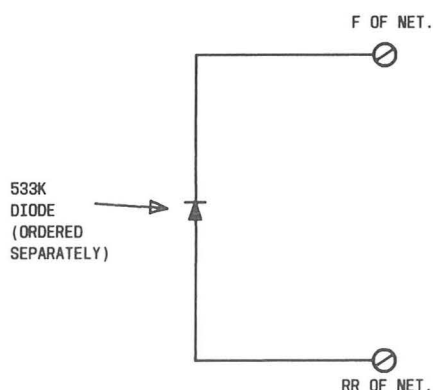

Fig. 5—Installing 533K Diode or Equivalent for Dial Restriction
(a) Install a 533K diode or equivalent between terminals RR and F of the network as shown in Fig. 5.
**Note 1:** Rotary dial telephone sets must have a 533K diode or equivalent (ordered separately), installed between RR and F of the network see Fig. 5.
**Note 2:** The new line switch can be identified by two additional leads which are (BL).